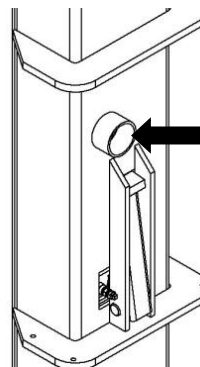

FIGURE 24 : COUVERT DE PROTECTION
1. COUVERT DE PROTECTION ROUGE AU NIVEAU DE LA VALVE DE NIVELAGE SUR LA COLONNE MAÎTRE. VOIR **FIGURE 24**.